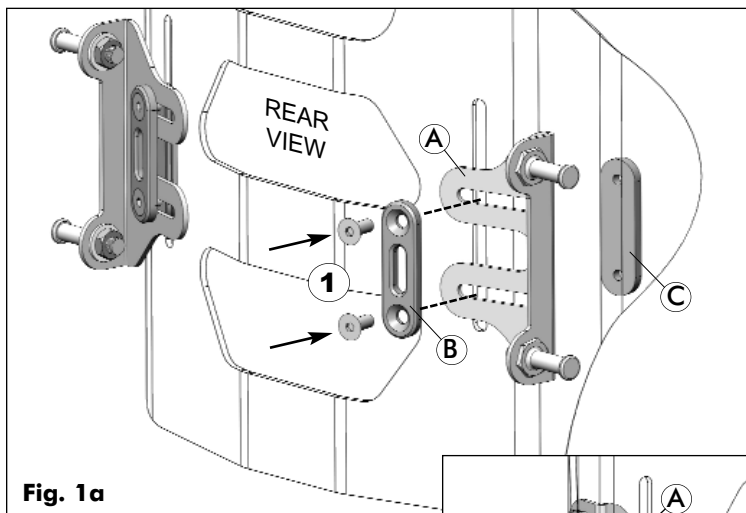

Fig. 1a
- 1 Working on one side of the back shell, install the quick-release mounting bracket (A) onto the Matrix MX2 back shell as follows:
- Align the washer plate (B) with the slots in the mounting bracket (A) and insert screws through both components (1); (Refer to **Fig. 1a** (p.18))